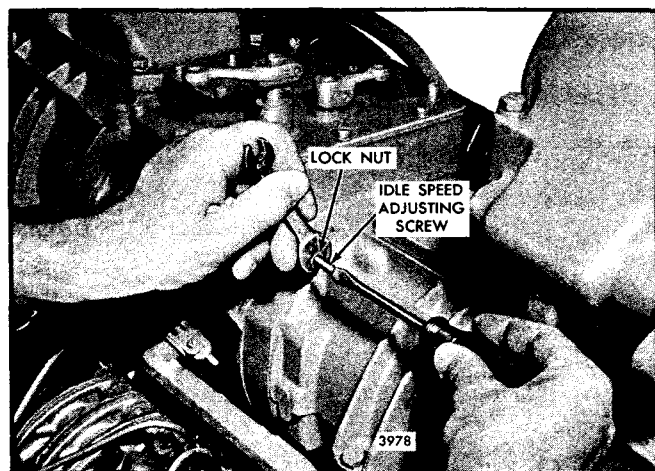

Fig. 9 - Adjusting Engine Idle Speed
1. With the engine running, at normal operating temperature and with the buffer screw backed out to avoid contact with the differential lever, turn the idle speed adjusting screw (Fig. 9) until the engine is